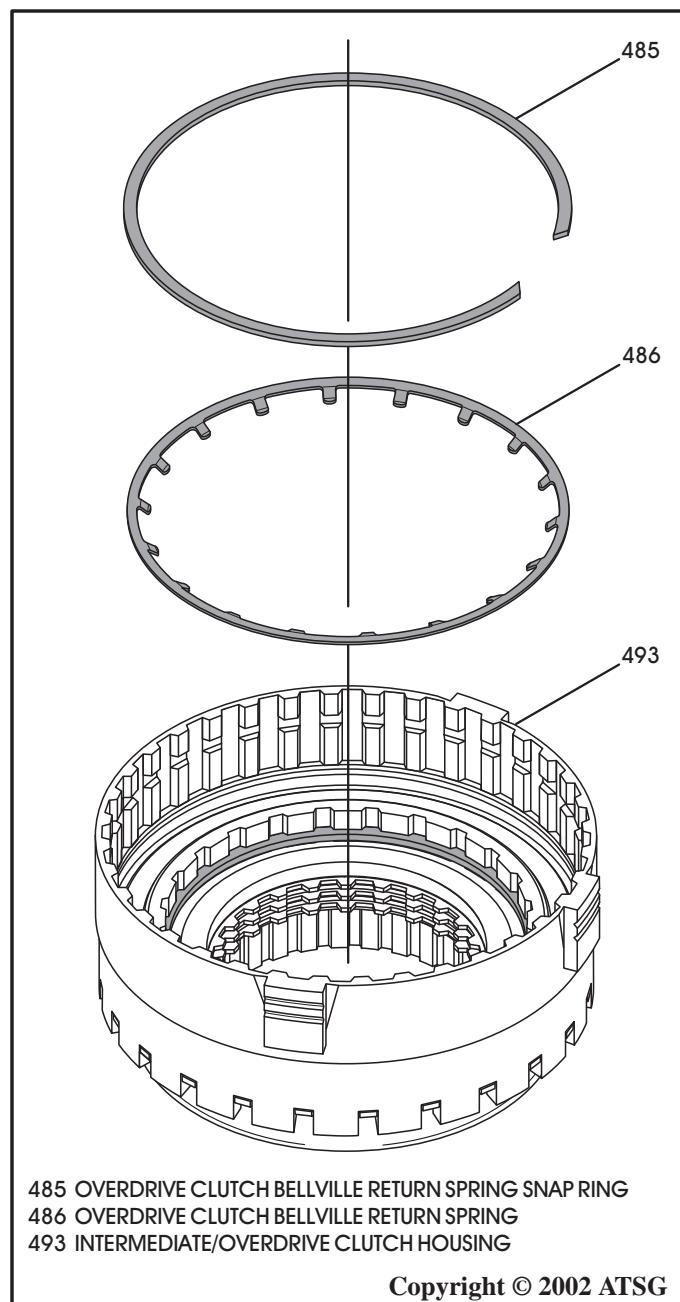

Figure 123
17. Install the "Bellville" overdrive clutch piston return spring (486), as shown in Figure 123.